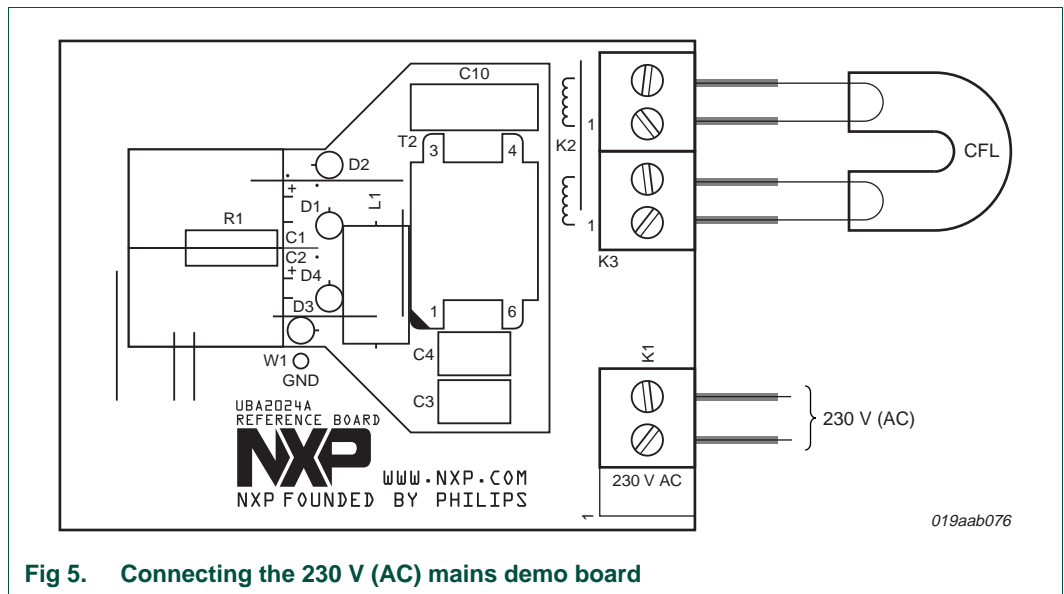
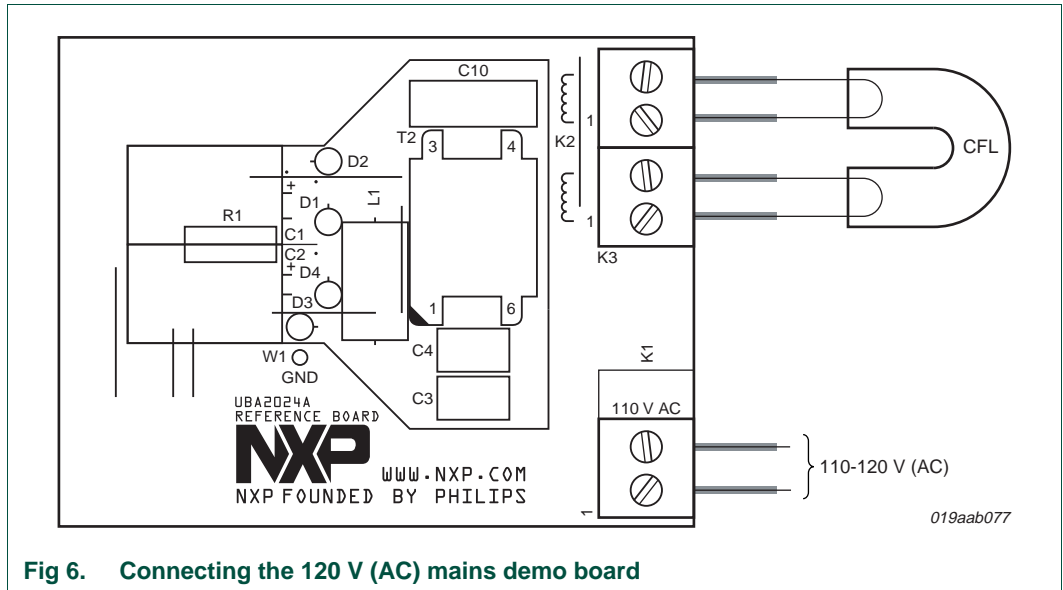

Fig 5. Connecting the 230 V (AC) mains demo board
Fig 6. Connecting the 120 V (AC) mains demo board
The connection to the lamp is very straight forward as the Figure 5 and Figure 6 show. The board has been designed to accommodate layouts for 120 V (AC) or 230 V (AC) line voltages. An ordered board is preset for a certain line voltage. The labeling on the board for the mains voltage connector has been designed in such a way that the correct line voltage label becomes visible when the two way screw terminal block for the mains voltage is soldered to the proper position.
Figure 5 shows how to select a different lamp inductor. The inductor can be set for 3.1 mH (default setting on delivery for the 13 W lamp), 2.7 mH, and 2.1 mH. The saturation current for the 2.1 mH inductor setting is 1.1 A at 125 °C ambient.